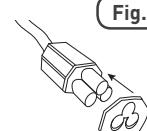

Fig.1
- ⚠ ALS DE KACHEL IN EEN RUIMTE WORDT GEBRUIKT WAAR HIJ IN CONTACT MET WATER KOMT, EN OM ERVOOR TE ZORGEN DAT DE IP44 CLASSIFICATIE BEHOUDEN BLIJFT, DIENT ER ALTIJD VOOR GEZORGD TE WORDEN DAT HET ELEKTRICITEITSSNOER IS VOORZIEN VAN DE ZWARTE FOAMPAKKING AAN DE CONTACTZIJDE VOORDAT DE SLIMLINE KACHEL OP HET ELEKTRICITEITSNET WORDT AANGESLOTEN [FIG. 1]**